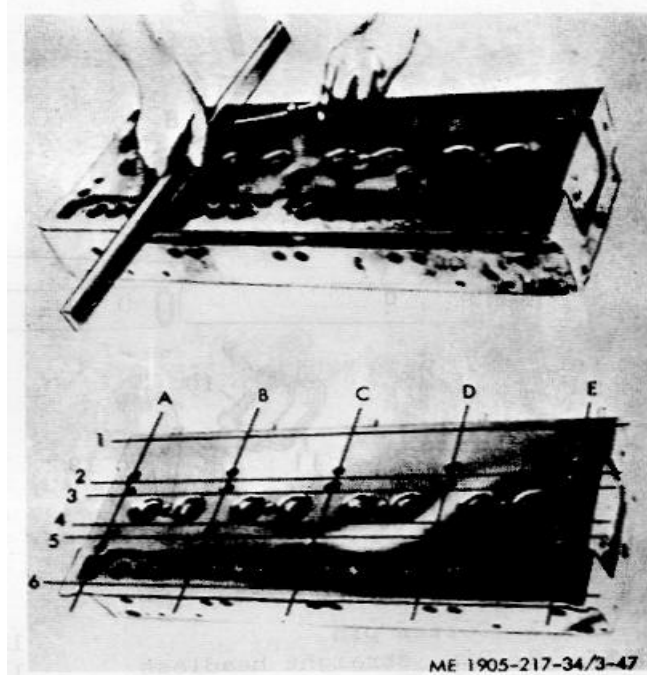

Figure 3-47. Checking bottom face of cylinder head.
- (1) Use a heavy, accurate straight-edge and feeler gage to check for transverse warpage at each end and between all cylinders. Also, check for longitudinal warpage in six places as shown in figure 3-47. Maximum allowable warpage is given by the following: